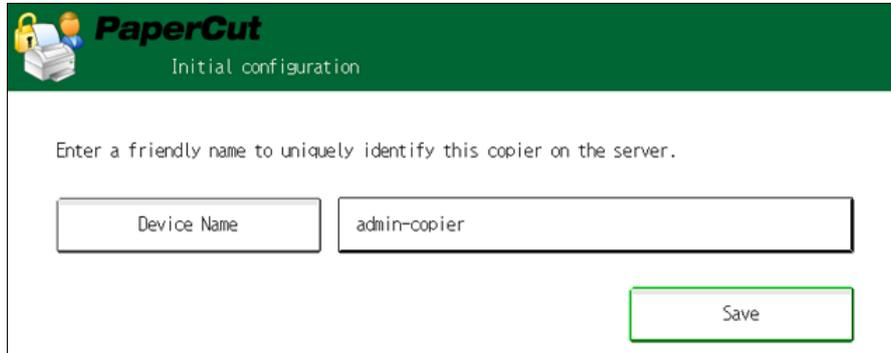

Figure 45: Initial configuration screen on MFDs with SDK 2.
6. Press the **Other Function** key (below the **Copy/Facsimile** keys on the left). The PaperCut application will then appear (see Figure 45).